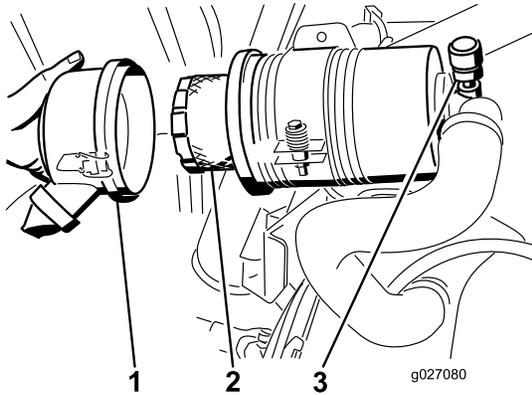

Figure 53
5. Remove and replace the filter (Figure 53).